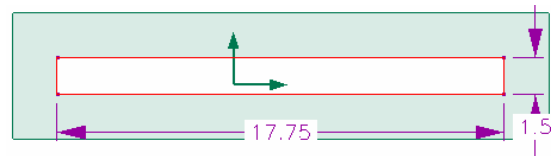

Figure 1. Dimensions of back cross piece
2. Use the dimensions in figure 1 to create a valid profile. Length is 17.75" and width is 1.5"